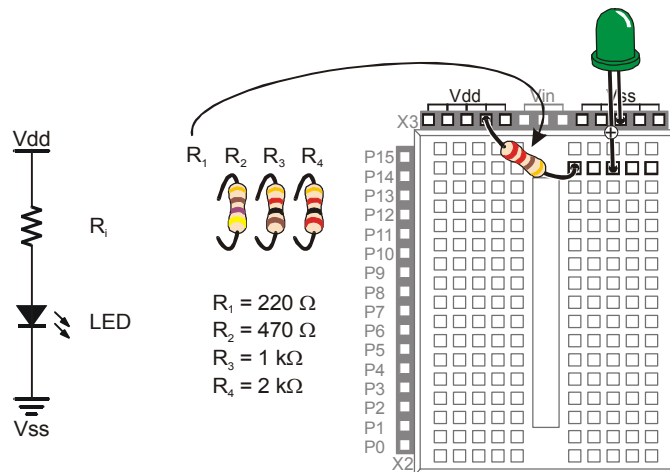

Figure F-1
The resistance value of R_i in Figure F-1 can be changed. Lower resistance allows more current through the LED, and it glows more brightly. Higher resistance values will cause the LED to look dim because they do not allow as much current to pass through the circuit.
- ✓ Start with the circuit shown in Figure F-1, but use a 1 k Ω resistor.